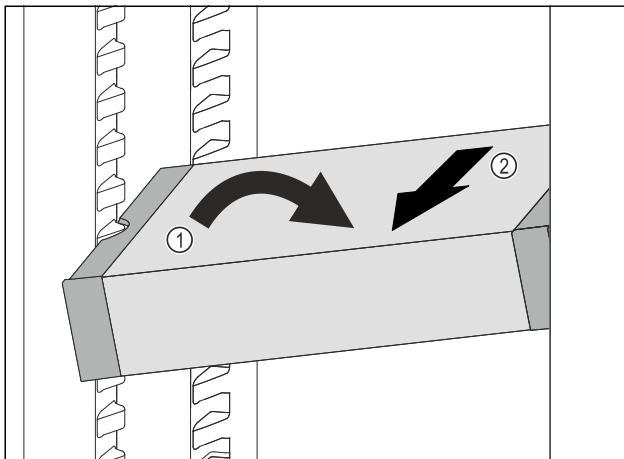

Fig. 217
- Set VarioSafe in refrigerator compartment at an angle. Fig. 217 (1)
- Take VarioSafe out to the front. Fig. 217 (2)